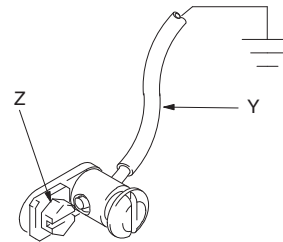

FIG. 1
**To ground the pump:** remove the ground screw (Z) and insert through the eye of the ring terminal at end of the ground wire (Y). Fasten the ground screw back onto the pump and tighten securely. Connect the other end of the ground wire to a true earth ground. See Fig. *To order a ground wire clamp, order Part. No. 222011.*
**Pump:** Use a ground wire and clamp as shown in FIG. 1.